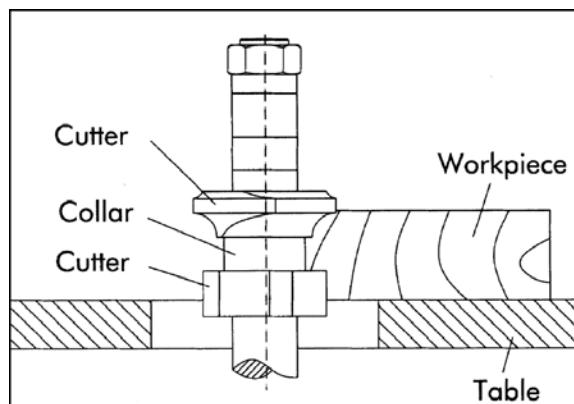

Figure 33
- Using the collar between two cutters has the advantages and disadvantages of the first two procedures, and is frequently used where both edges of the work are to be molded. See Figure 33.